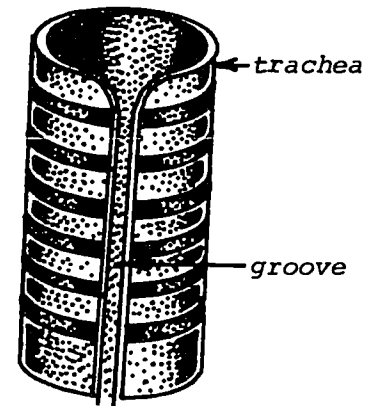

FIGURE 2:
3. To distinguish the ventral side of the lungs from the dorsal side, do one of two things. Either have someone strong lift the specimen by the trachea or else roll the specimen over. In either case, look at both sides of the trachea. Note the rings that go around it. On the dorsal side, the rings are not continuous, but are separated by a groove which runs the length of the trachea (see Figure 2). On the ventral side, there is no groove and you should be able to find the cavity where the heart was. This cavity is lined with fatty tissue.